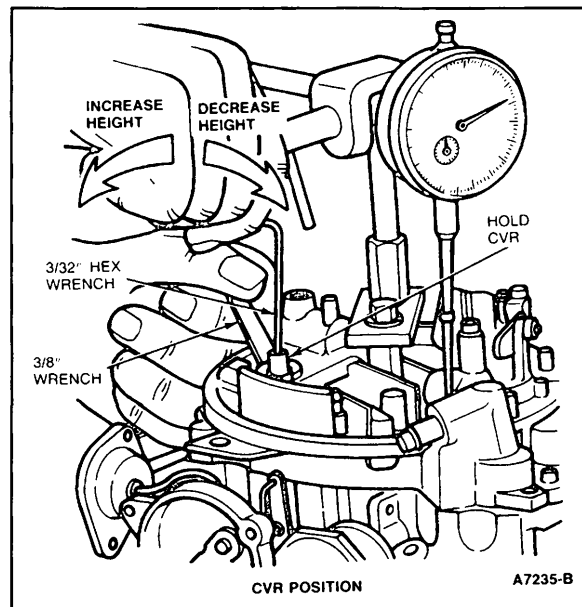

Figure 9 Control Vacuum Rod (CVR) Adjustment
3. Adjust by holding CVR with 3/8 inch wrench, and turning adjustment with 3/32 inch hex wrench CW to decrease or CCW to increase height (Figure 9).